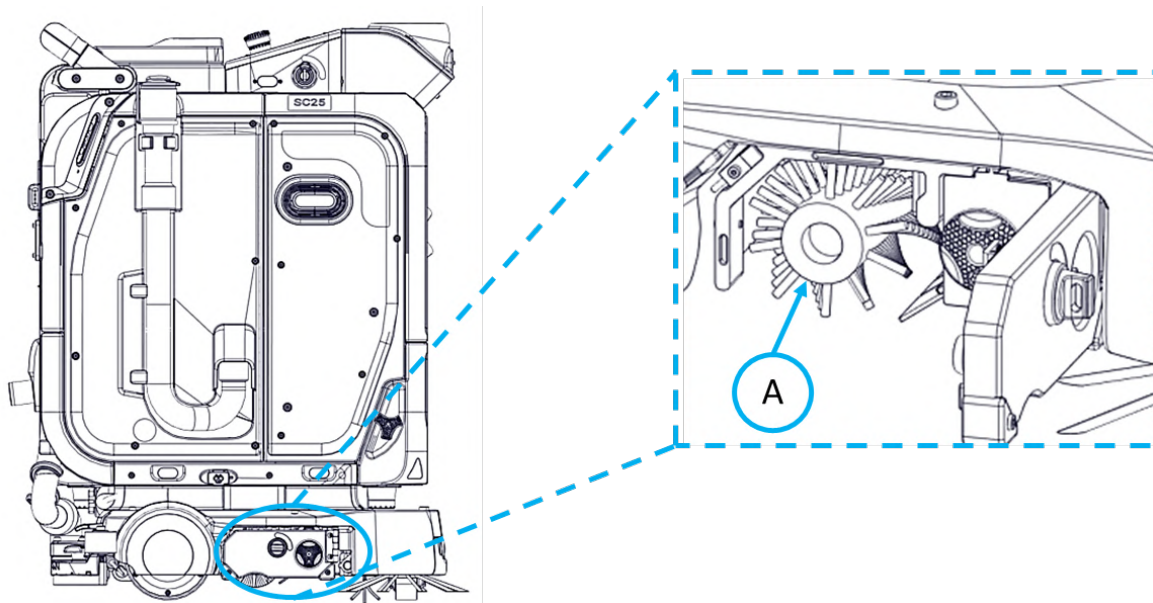

FIGURE 10-12
2. Pull out the brush (**Fig. 10-12 (A)**) and clean under a stream of running water to remove impurities from the bristles.